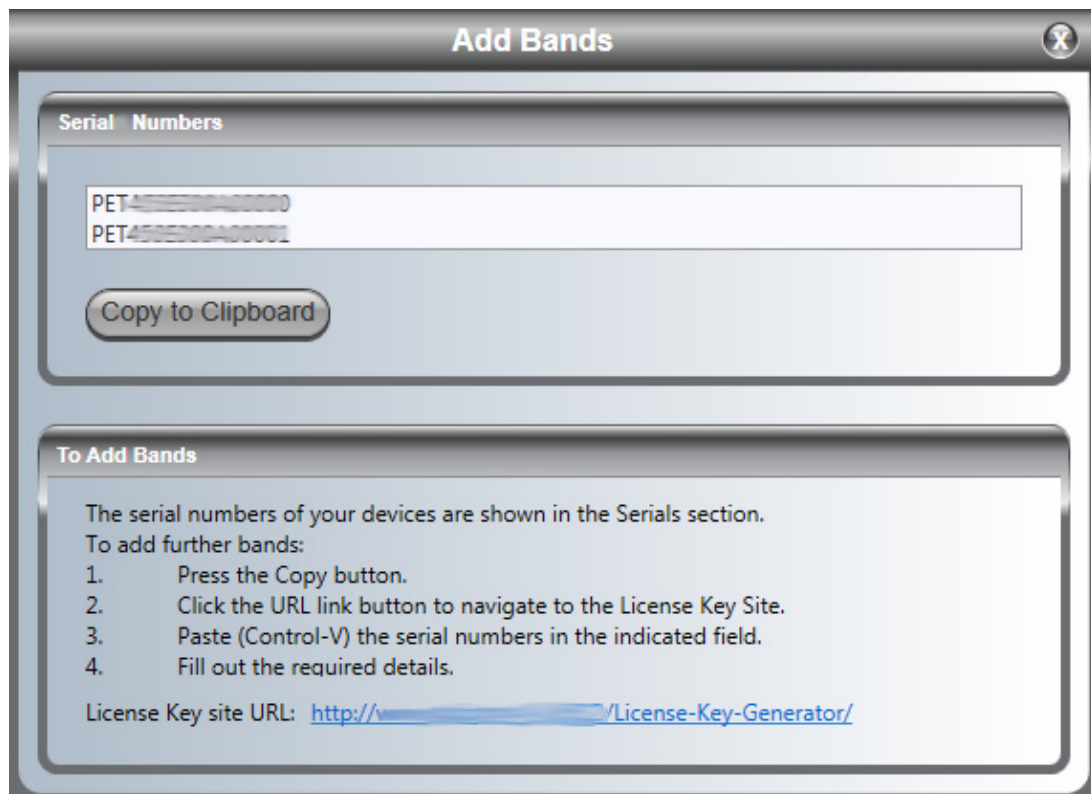

Figure 3-11: Add Bands Instructions Panel
2. Now carry out steps 2 to 4 in Figure 3-11. Step 2 will take you to a Web page, which contains a form like this: